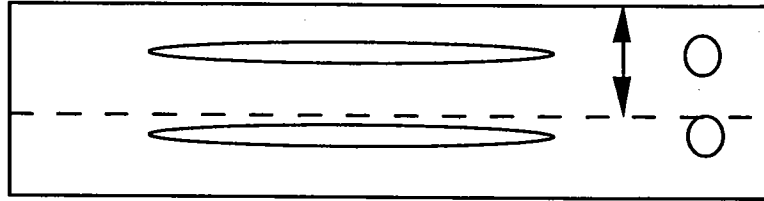

**Fig. 6.7 Correct position of the spectrum on the grating after four path through the compressor**
- 31) Unblock assembly #34. Using the IR viewer, one should see the input beam and spectrum on the bottom and the same pattern directly above. See Fig. 6.7.
- 36) If adjustments are made with these mirrors, go back and look at the grating with the IR viewer. Verify that the beams are aligned as in Fig. 6.7 and 6.8. If large adjustments are necessary to get rid of any clipping of the output beam then the above procedure needs to be repeated.